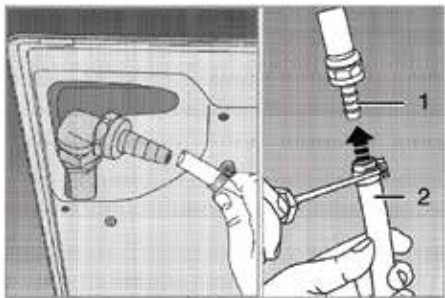

Figure 4
- Connect the clamp to the hose. Then connect the hose to oven. Finally, tighten the clamp with a screwdriver. (See Figure 4)